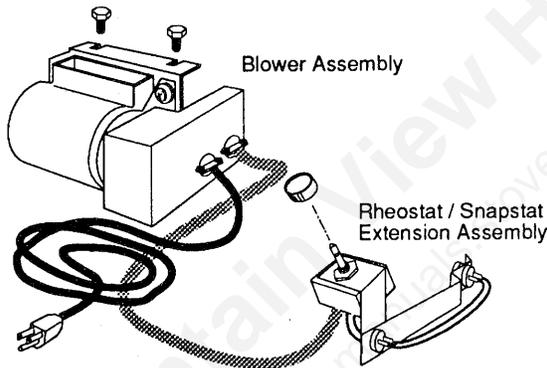

Figure 19. Fan Kit Components
Step 4. The fan kit consists of a Blower Assembly and a Rheostat Assembly that are connected by a cable. Fig. 19. The Blower Assembly mounts to the bottom rear of the the stove and the Rheostat mounts within the switch box on the left rear corner of the stove. The Rheostat contains a "snapstat" which senses the temperature within the stove heat exchanger and automatically turns the fan On (or Off) above (or below) approximately 109°. The Rheostat also provides a range of fan speed settings from Off (which overrides the snapstat function) to High.